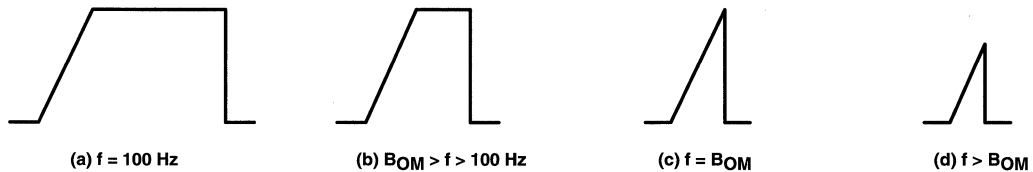
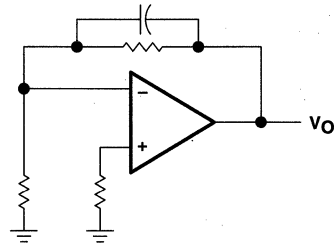

Figure 101. Full-Power-Response Output Signal
Figure 107. Compensation for Input Capacitance
1. Isolate the device from other potential leakage sources. Use a grounded shield around and between the device inputs (see Figure 101). Leakages that would otherwise flow to the inputs are shunted away.
Because of the extremely high input impedance and resulting low bias current requirements, the TLC271 is well suited for low-level signal processing; however, leakage currents on printed circuit boards and sockets can easily exceed bias current requirements and cause a degradation in device performance. It is good practice to include guard rings around inputs (similar to those of Figure 101 in the Parameter Measurement Information section). These guards should be driven from a low-impedance source at the same voltage level as the common-mode input (see Figure 107).